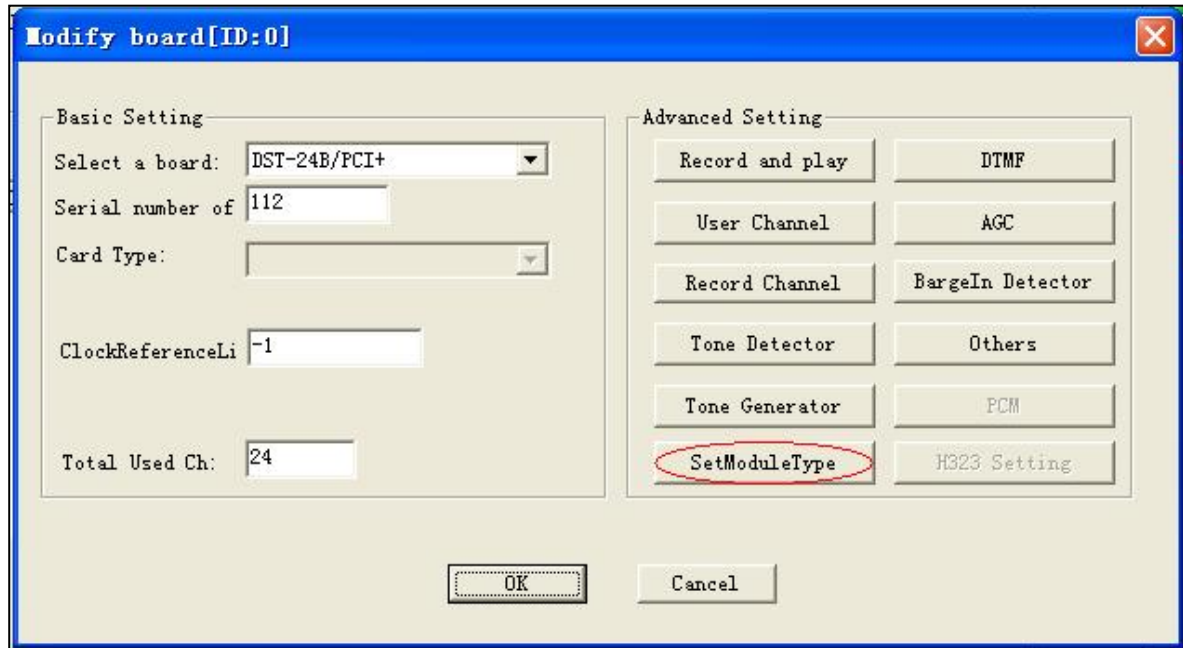

Figure 2-2
Step 2 : In the dialog 'Modify board', click the button 'SetModuleType' as shown in Figure 2-2.